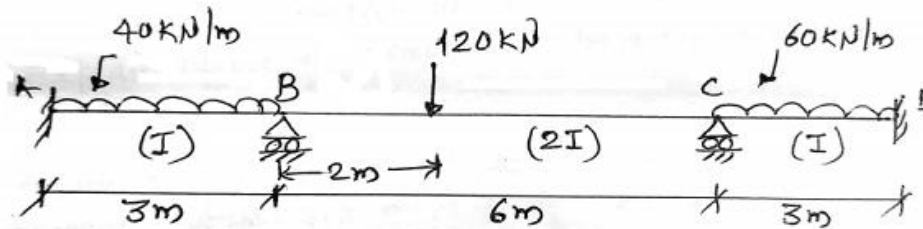

Fig. 1
- Q.2 Analyze the continuous beam as shown in fig. 1 by slope deflection method, if support C sinks 15 by 10 mm. Take $E = 2 \times 10^5 N/mm^2$ & $I = 4 \times 10^7 mm^4$. 15